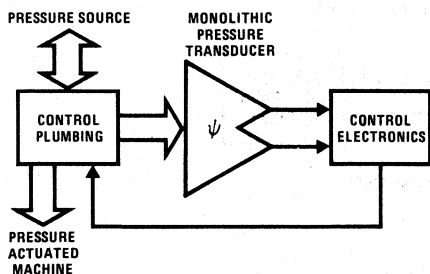
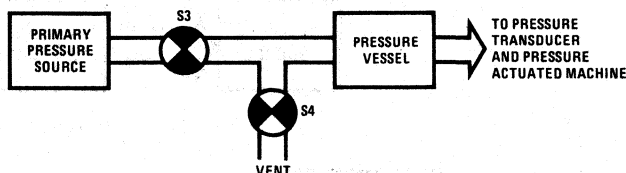
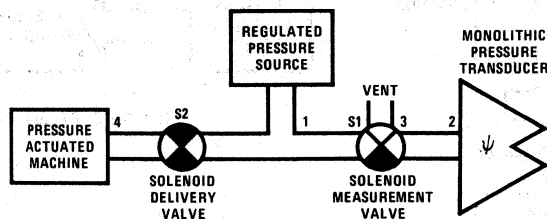

FIGURE 4. Pressure Microcontroller
FIGURE 5. Pressure Regulator
FIGURE 6. Basic Control Plumbing
The primary job of the pressure microcontroller as indicated in *Figure 1* is to control the sequence, timing, and value of pressure delivered from the pressure source to the pressure actuated machine. As shown in *Figure 2*, this involves controlling the pressure difference between the upstream and downstream chambers of a piston-cylinder mechanism. Also, as shown in *Figure 3*, the control function may involve regulating the pressure delivered from the primary source to a pressure vessel, which vessel may in fact be a chamber of the machine. To accomplish these ends, the pressure microcontroller includes control plumbing, a pressure transducer, and control electronics. *Figure 4* shows a pressure transducer based pressure microcontroller.
A secondary job that can be performed by the pressure microcontroller of *Figure 4* is to serve as the pressure regulator of *Figure 3*. In this function, the pressure to be delivered to the pressure actuated machine is that of the pressure vessel. This pressure is measured by the pressure transducer. The microcontroller decides whether to increase or decrease the pressure of the pressure vessel. To increase the pressure, the 2-way solenoid valve (S3) is energized by the microcontroller such that pressure is delivered from the primary source to the pressure vessel. To decrease the pressure, the 2-way solenoid valve (S4) is energized such that the pressure vessel is bled to atmosphere. *Figure 5* is a schematic of this kind of pressure regulator. To simplify this subject matter, the
*Figure 6* shows the basic valve control plumbing necessary to deliver pressure from the regulated source to a pressure actuated machine as programmed. The regulated pressure source of *Figure 6* need be such that the desired delivery pressure be within the regulation range. For example, the pressure source may be regulated by the method shown in *Figure 5*, such that its pressure cycles between 20 psig and 30 psig. Further, suppose the desired delivery pressure is  $25 \pm 1$  psig. Then, it is the job of the control plumbing to deliver pressure whenever the regulated pressure source is at the desired delivery pressure.